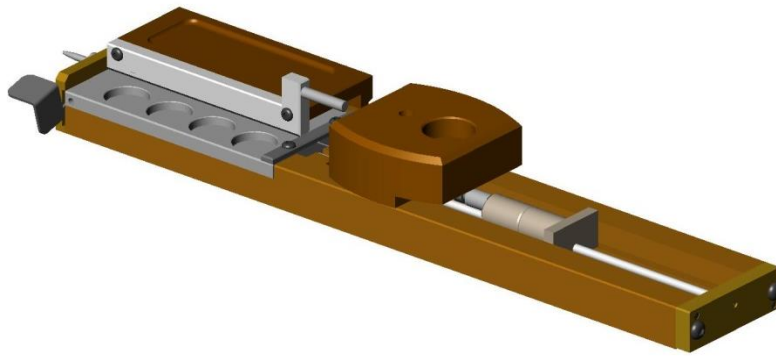

Figure 2
6. Close the groove cover and move the slide left toward the assembly plate to compress the seeds and the SOURCELINK® Connectors. Continue motion to the left until the slide handle releases and comes to a full stop (Figure 2).